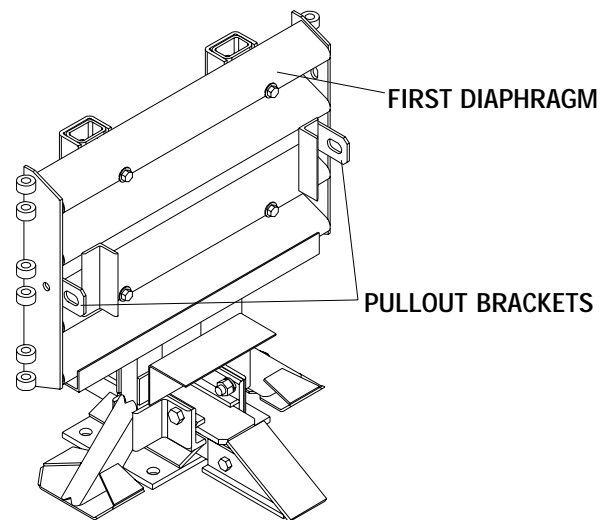

Figure 50
6. Attach 10 mm [3/8"] grade 40 chain to pullout brackets on first diaphragm (see figure 50). Attach both ends of chain to a heavy vehicle (such as a 1 ton pickup).